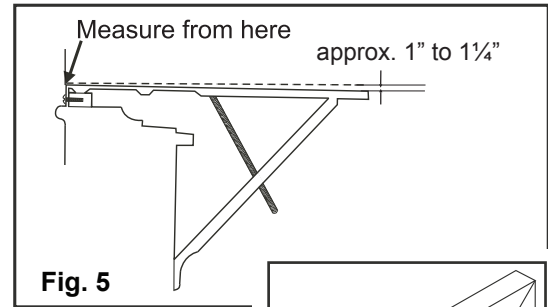

Fig. 5
4. Peel off protective backing from track seal. (Fig. 5)
5. Adjust the platform assembly properly. (Fig. 5)